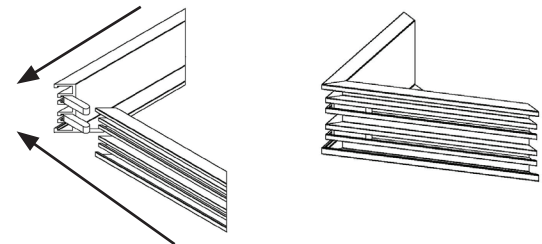

FIG 4
2. After consulting the shop drawings, assemble the frame using the corner keys provided (FIG 4). If the size of the frame requires multiple sections, join the marked frame sections with the roll pins provided. Place the frame in the opening, and shim as necessary to locate the exposed top of the frame at the height of the finished floor. Be sure to put the correct side up. The depth from the top of the frame to the lip should be 1.75". Check corner to corner dimensions to be sure frame angles are correct.